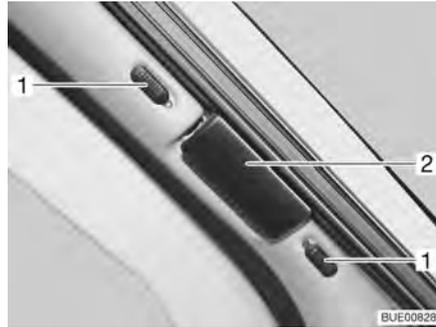
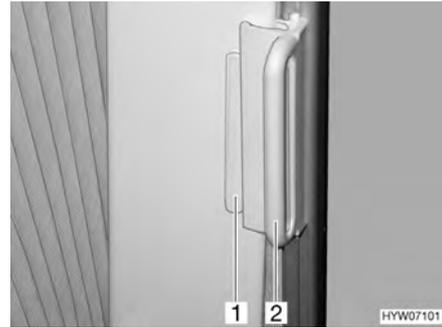

Fig. 62 Roman shade for the wind-screen
Fig. 63 Roman shades for driver's window and front passenger's window
- On the Roman shade for the windscreen, push the locking knobs (Fig. 62,1) upwards or downwards. If the red dot is visible, the lock is open.
- Grasp the handle (Fig. 62,2 and Fig. 63,2) of the Roman shades and draw carefully until the magnetic catch keeps the Roman shades closed.
- On the Roman shades for the driver's and passenger's window, push the handle (Fig. 63,2) onto the cap (Fig. 63,1). The Roman shade is secured.